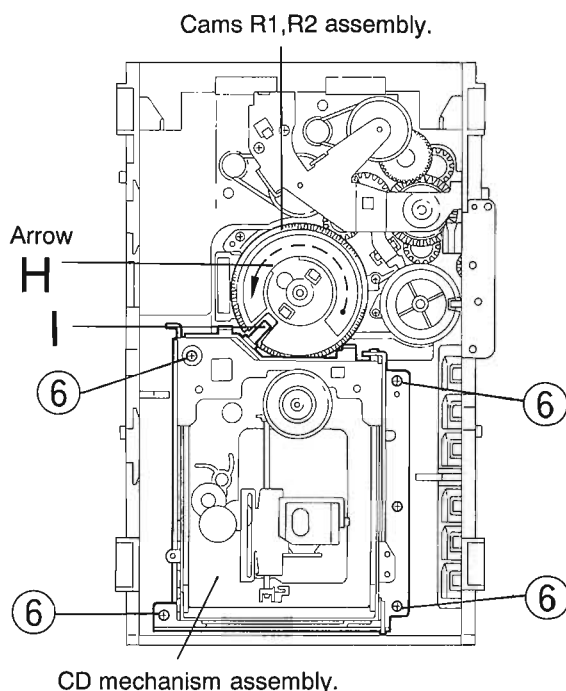

Fig.3-44
(See Fig.3-44)
1. While turning the cams R1 and R2 assembly in the arrow direction "H", align the shaft "I" of the CD mechanism assembly to the position shown in Fig.3-44.
2. Remove the four screws ⑥ retaining the CD mechanism assembly.